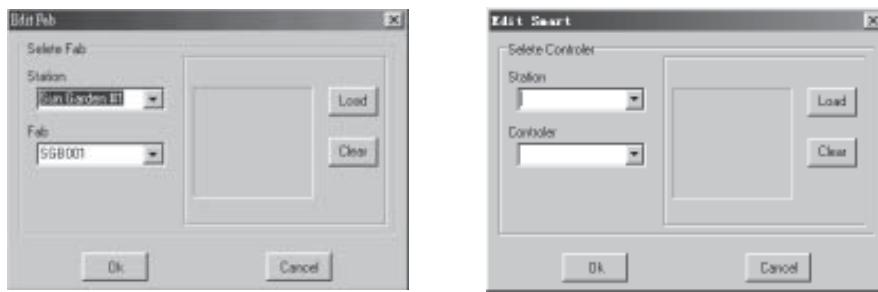

Fig. 4-31 Insert FABs
1. Select and click the icon  and move the mouse to the drawing interface, the dialogue frame as in Fig. 4-31 will be shown in the system. Then select the corresponding FAB.